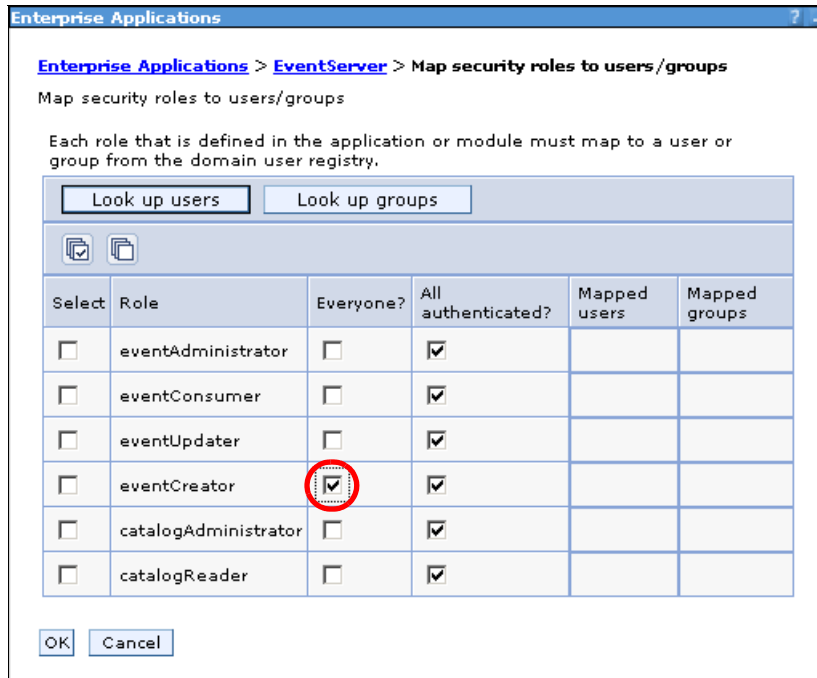

Figure A-36 Specifying that everyone can create events
- ▶ Select *Everyone* for the eventCreator entry (Figure A-36).